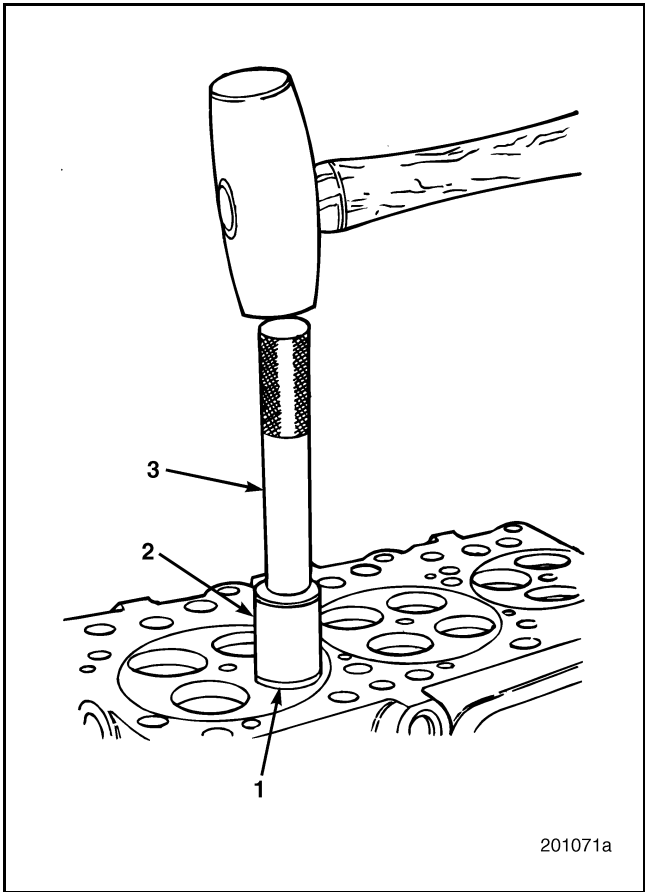

Figure 266 — Valve Seat Insert Installation
2. Position the valve seat insert over the corresponding counterbore as shown in Figure 266. Install the inserts using valve seat insert installation set J 38586. Use the driver handle J 8092 to drive the valve seat insert into the counterbore.